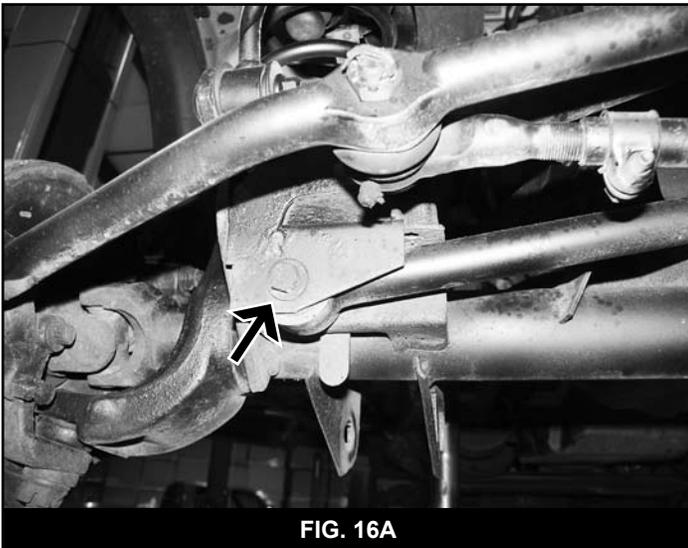

FIG. 16A
47. Disconnect the track bar from the axle and the frame (Fig 16A, B). Disconnect the track bar from the frame by remove the cotter pin and nut. Strike the track bar mount near the track bar end with a hammer to release the tapered end from the frame mount. Remove and discard the track bar and hardware.